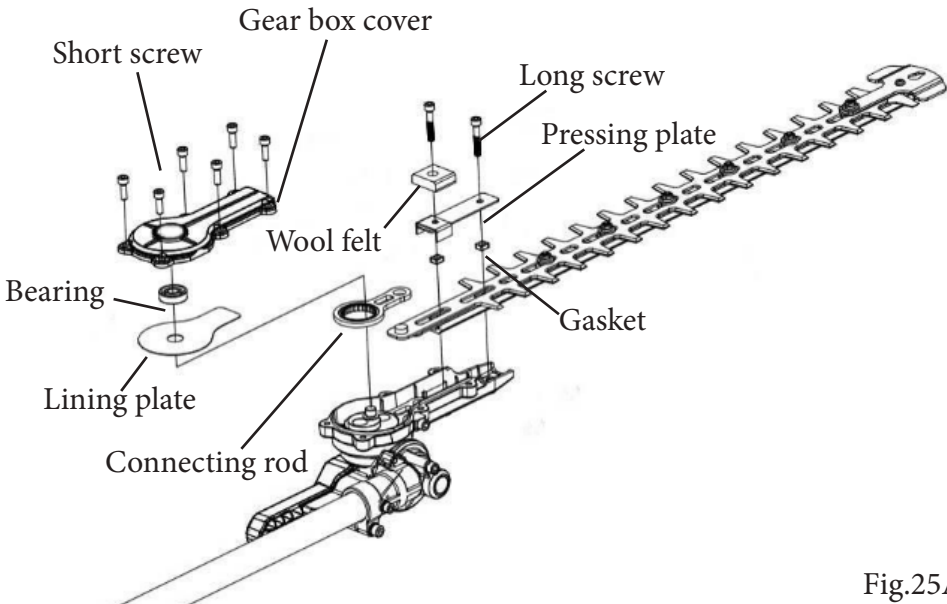

Fig.25A
- b) Adjust the blade to the horizontal position, ensuring that the blade assembly is in line with the hedge trimmer shaft and put the gear box cover upwards(Fig. 25A).